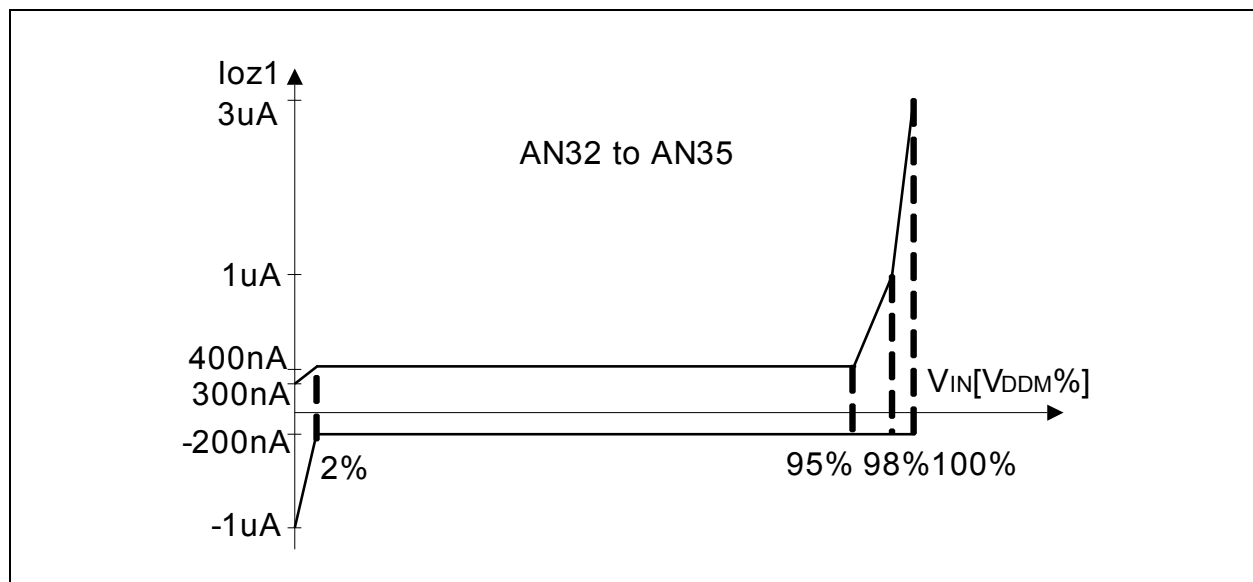

Figure 4-5 Analog Inputs AN32-AN35 Leakage
- 5) The leakage current definition is a continuous function, as shown in Figure 4-5. The numerical values defined determine the characteristic points of the given continuous linear approximation - they do not define step function.